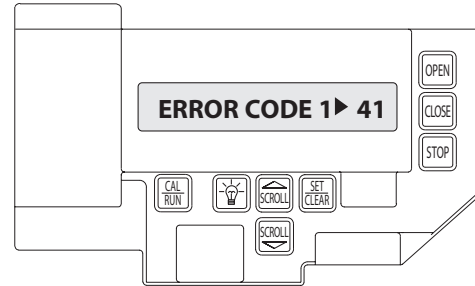

Figure 1
- 2) Press SCROLL  until display reads "CYCLES>1,2,3 etc. where the number is the number of open/close cycles the operator has performed. **Figure 1.**
The error code memory stores the last 10 error codes in sequence. Once 10 codes are stored, the oldest code is erased to make room for the newest code. These codes are displayed in calibration mode. The display will flash the number of the error code and the 2-digit error code followed by a description of the error code. **Fig. 1 & 2.**